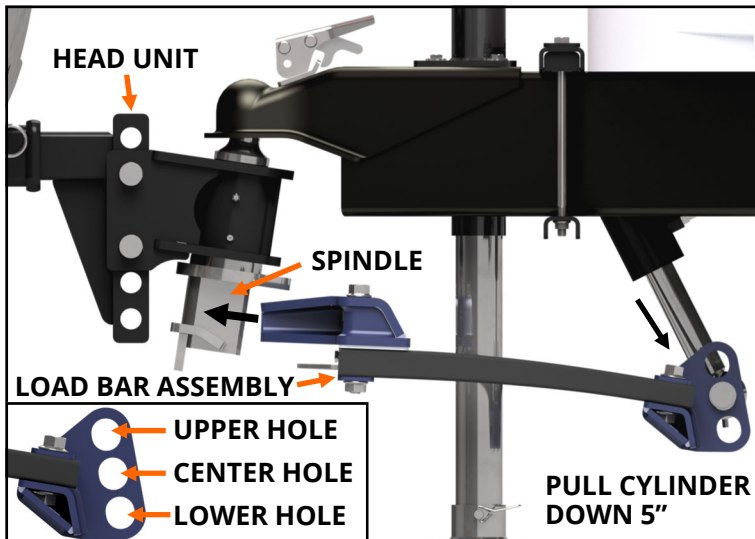

FIGURE F2: View of the driver side of the hitch.
3. **Attach the load bar assembly to the spindle.** Open the needle valve on the hydraulic pump. Push down on the lower cylinder mount to extend the hydraulic cylinder until it is fully extended with about 5" of chrome rod showing. Lift the load bar assembly and slide it into the bottom of the spindle of the head unit until the latch pin of the forks engages with the spindle, **see Figure F2.** If the forks do not slide into the spindle far enough to engage the latch pin, then use the upper hole in the lower cylinder mount, **see Figure F2.** If the forks will still not slide into the spindle after trying a different mounting hole, call B&W Customer Service Department for support.